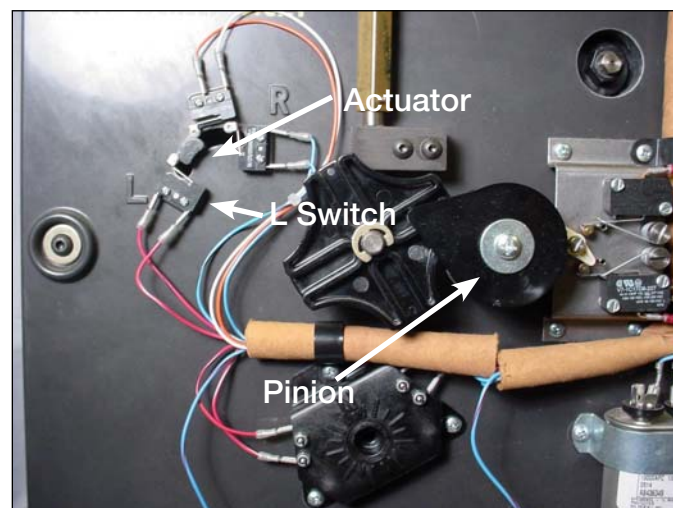

Figure 42.
9. Position the position actuator arm between the center position and L by rotating the pinion counter clockwise. See Figure 42. This will allow for mounting the micro switches without interference with the micro switch arms.